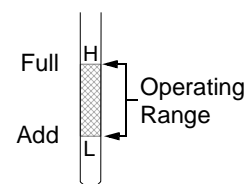

Figure 55
- Always keep the oil level between the 'H' (full) and the 'L' (add) marks on the dipstick. See Figure 55.
- SLOWLY pour oil into the crankcase until the oil level reaches the “FULL” mark on the dipstick. Refer to Figure 55.